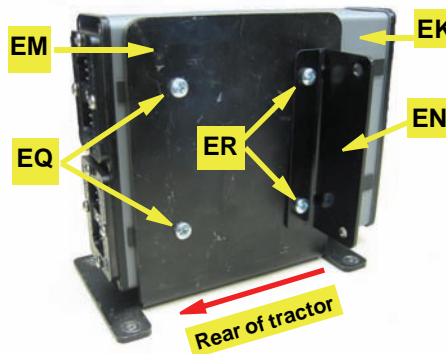

Figure 1c: Installed ECU and controller bracket (viewed from driver's seat side)
- c. Using the shorter hardware **EQ** through the rear-most holes in bracket **EM**, attach **EK** (cable connectors rearward) loosely to the inside face of bracket **EM** (Figure 1c - viewed from driver's seat side).
- d. Using the longer hardware **ER** through the narrow side of bracket **EN** (wider side forward) and the remaining holes in bracket **EM**, secure **EK** and **EN** to **EM** (Figure 1c). Tighten **EQ** and **ER**.